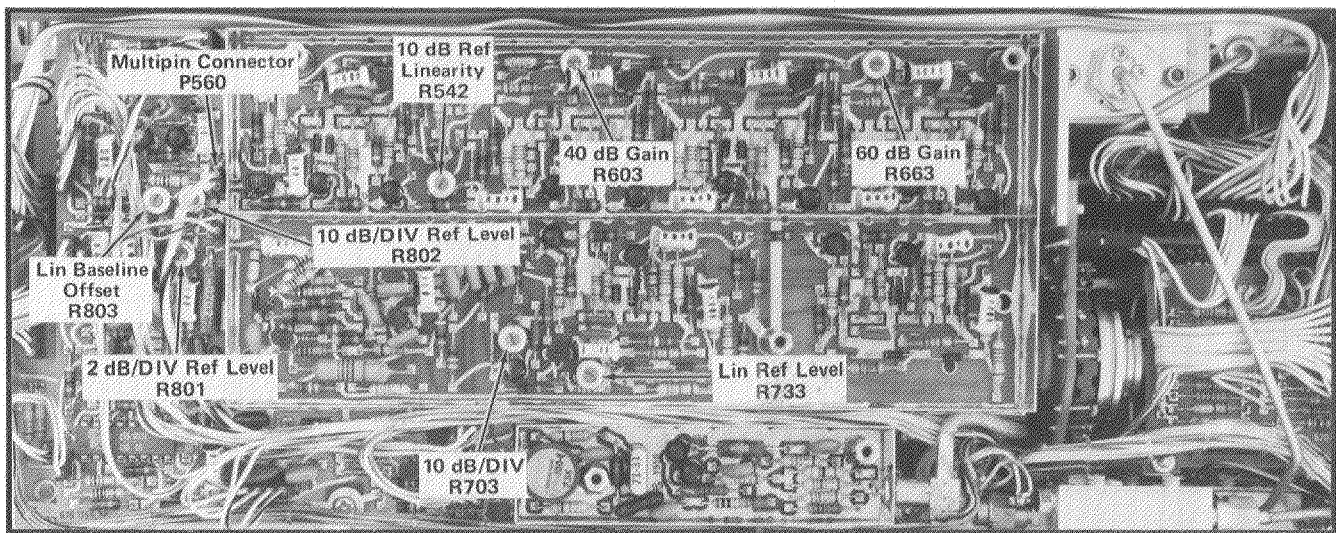

Fig. 4-3. Function IF calibration adjustments and test points.
Pull the harmonica (multipin) connector P560, to pins 1 and 2 on the Function IF circuit board (Fig. 4-3).
b. Adjust the Lin Baseline Offset R803 (Fig. 4-3) clockwise from a fully CCW position to a point where the trace stops moving down. (Do not adjust past this point.)
b. Apply a 10 MHz -10 dBm signal, from a calibrated signal source, through appropriate adapters (BNC female to SEAELECTRO female, SEAELECTRO male to male adapter, and SEAELECTRO female to harmonica connector) to P560 (Fig. 4-3). Note: Part numbers for these adapters are provided under Equipment Required List. If an accurate 10 dB, 50 Ω step attenuator is available, connect it in series with the signal source.
c. Adjust the 2 dB/Div Ref Level R801 (Fig. 4-3) so the trace is at the 5th graticule line down from the top.
g. Adjust Lin Ref Level R733 (Fig. 4-3) so the trace is at the top graticule line.
i. Calibrate the center screen dynamic range to 20 dB (2 division) by adjusting 10 dB/Div R703 (Fig. 4-3) as the signal input level is changed 20 dB.
j. Set the signal input level to -40 dBm. Adjust 10 dB/Div Ref Level R802 (Fig. 4-3) so the trace is at graticule center.
k. Increase the signal level to 0 dBm then adjust the 10 dB Ref Linearity R542 (Fig. 4-3) so the trace is at the top graticule line.
o. Adjust the 40 dB Gain R603 (Fig. 4-3) so the trace is at the reference level or top of the graticule.
r. Adjust the 60 dB Gain R663 (Fig. 4-3) so the trace is at the reference level.